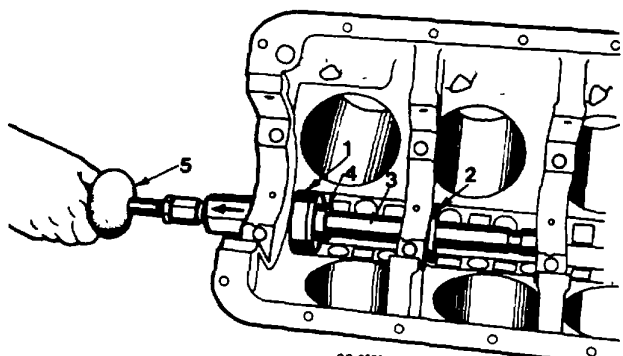

Figure 125. Removing Front Camshaft Bearing
- 6. Remove "C" washer and use second adapter as a pilot. Remove front bearing by pulling bearing from case (Figure 125).